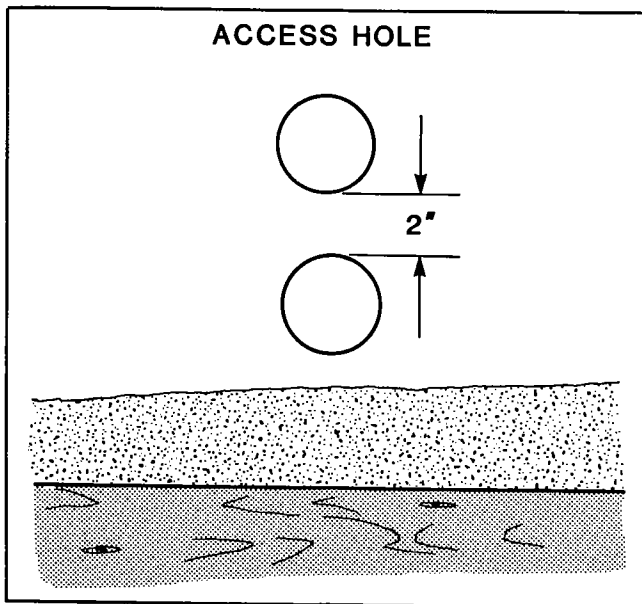

Figure 38. LP Regulator Access Holes
- Cut a 2-inch hole in the inner wall with a hole saw (figure 38).